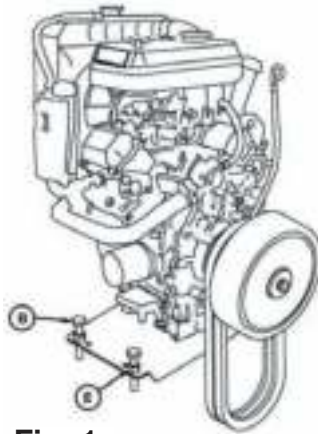

Fig. 1
2. Loosen jam nuts(E) and loosen engine plate adjustment bolts (B) until belt tension is relieved. (refer to fig 1.)
3. Loosen set screws(C) where the u-joint couples to the drive shaft.
4. Slide u-joint(D) off the drive shaft to create a gap in the drive line to allow removal of belts through gap.
5. Install new belts through gap and reverse process to tighten new belts. **Be sure to reset the gap between the U-Joints to between  $3/64$  to  $3/16$ (F).**